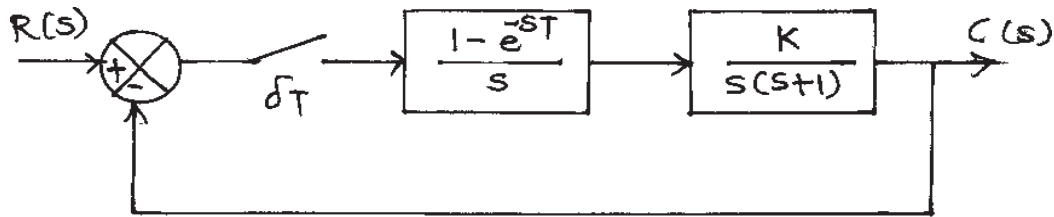

Fig. 3
- b) For a unity feedback closed loop system (Fig.3) to be stable, find the range of $K > 0$ (static gain constant) when $T=1$ sec, $T=2$ sec and $T=4$ sec Comment on the effect of sampling on stability and static gain constant. [10]